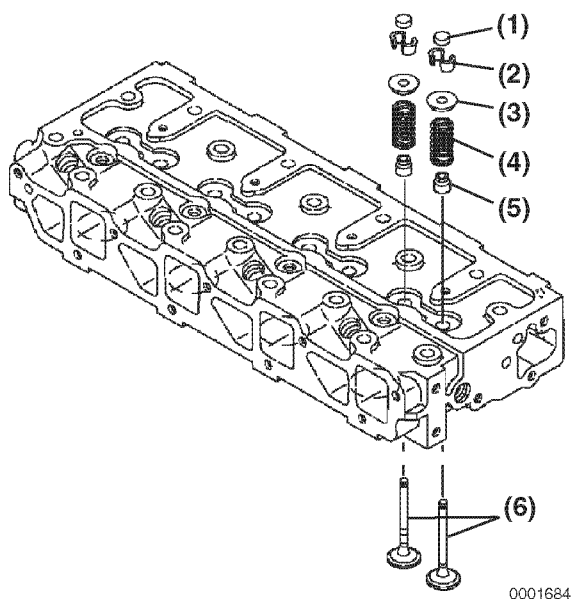

Figure 6-30
4. Place all the valves (**Figure 6-30, (6)**) in their proper location in the cylinder head.
5. Place the cylinder head on the workbench with the combustion side down to install the valve springs. Install the valve spring (**Figure 6-30, (4)**) and the spring retainer (**Figure 6-30, (5)**).
7. Insert the valve keepers (**Figure 6-30, (2)**) and slowly release the tension on the valve spring. Install the valve cap (**Figure 6-30, (1)**). Repeat the steps on all the remaining valves.